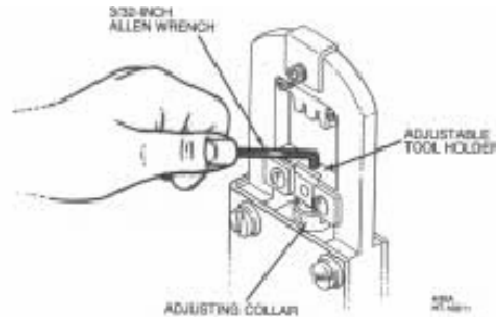

Figure 11
2. Insert a 3/32-inch Allen wrench into the hole in the adjustable tool holder and into the socket head setscrew (see Figure 11). Turn the setscrew ¼ turn counter clockwise to unlock the adjusting collar.